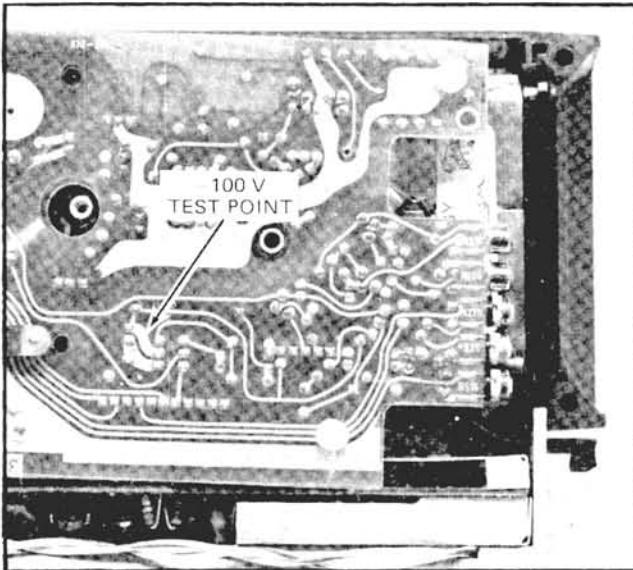

Fig. 4-2. Location of -100 V test point.
- Measure the -100V supply for a reading of -95 volts to -110 volts (see Fig. 4-2).